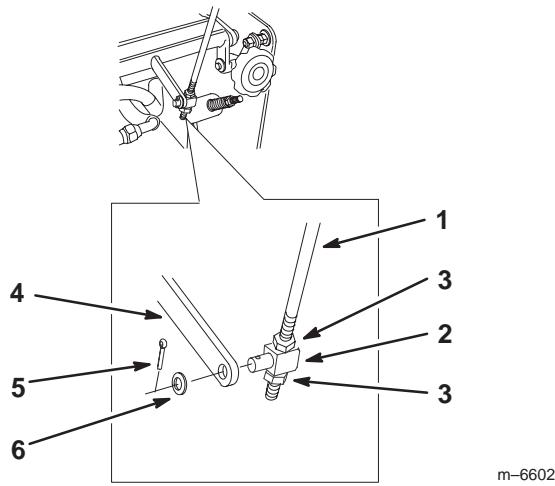

Figure 22
2. Loosen the nuts holding the swivel connected to the speed control crank (Fig. 22).
6. Adjust the swivel on the speed control rod and tighten the nuts against the swivel (Fig. 22).